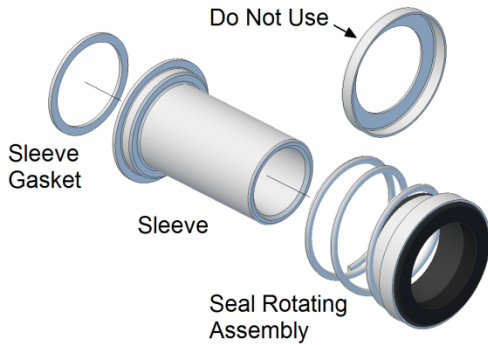

Fig. 3
2. Mechanical seal rotating assembly should be assembled as detailed below in Fig. 3. **Note:** Do not use the stamped sheet metal spring holder supplied by the mechanical seal manufacturer; the spring holder is incorporated into the sleeve design. The rotating assembly should be installed on sleeve #126 by lightly lubricating the sleeve and pushing seal head over shaft sleeve.